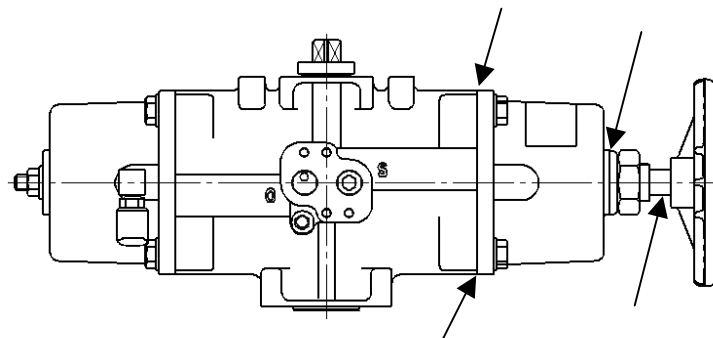

Fig.34
- (10) Supply the actual operation pressure to the housing through Port [O] and check external air leakage through a FSW unit (Fig.34).